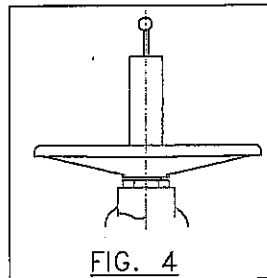

FIG. 4
- *Figure 4* ► it represents a valve with a direct wheel and position indicator .